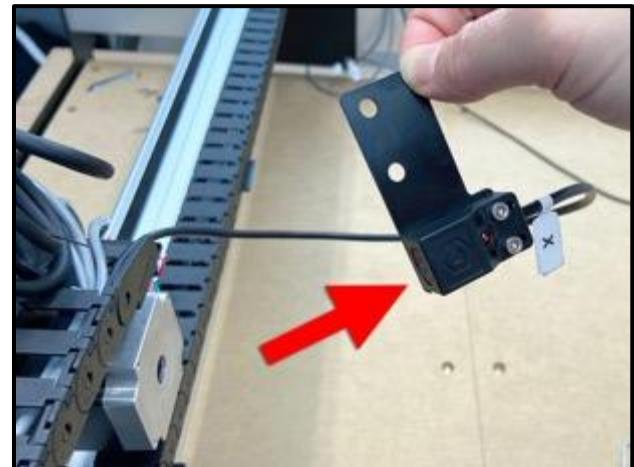

Figure 7-5
2. Align the switch and plate, with the switch facing left and the plate's two PEM nuts in the **BOTTOM-RIGHT** corner. Flush the face of the switch with the edge of the plate. See *Figure 7-5*.
3. Use the 2.5mm hex key and two (2) M3x18mm socket head cap screws to attach the switch to the plate. Make sure the front edge of the proximity switch and plate stay flush. See *Figure 7-5*.